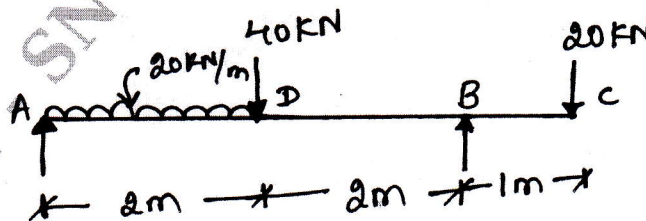

Fig.Q4
- 4 Draw BMD and SFD for overhanging beam shown in Fig.Q4. Clearly indicate point of contraflexure.